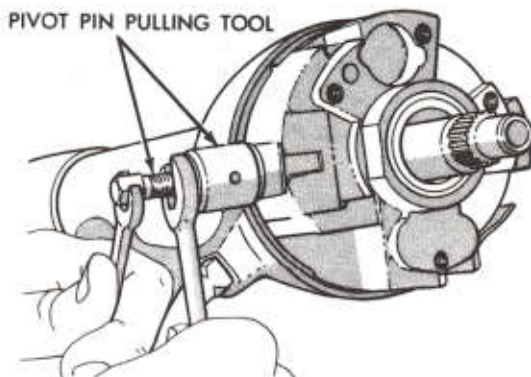

Fig. 9—Pivot Pin Removing Tool
(14) Place pivot pin remover C-4016 over pivot pin and thread small portion of screw firmly into the pin. Hold screw from turning with one wrench, turn nut clockwise with a second wrench to withdraw pivot pin from the support (Fig. 9). Remove opposite pivot pin in same manner.
(15) Use tilt release lever to disengage lock shoes. Remove bearing housing assembly by pulling upward to extend rack fully. Move housing assembly to the